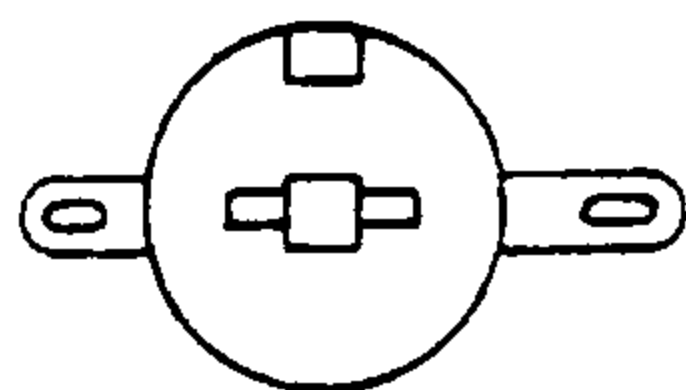

Figure 2
- () Turn the trimmer capacitor (on the range switch) to the position shown in Figure 2. This compensates the input voltage divider approximately for frequencies throughout the range of the VTVM.